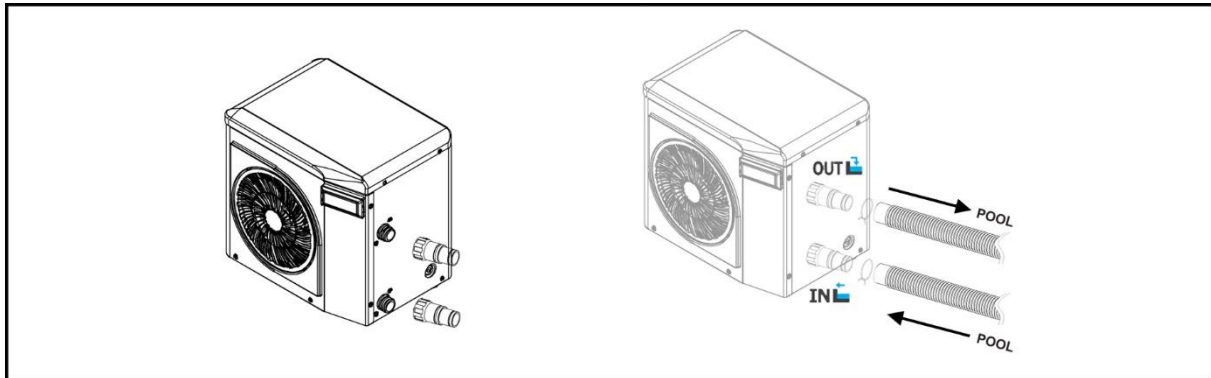

Fig. 4
- Now connect the pool hose in the direction of the pool to the upper connection (**OUT**) (Fig. 4).